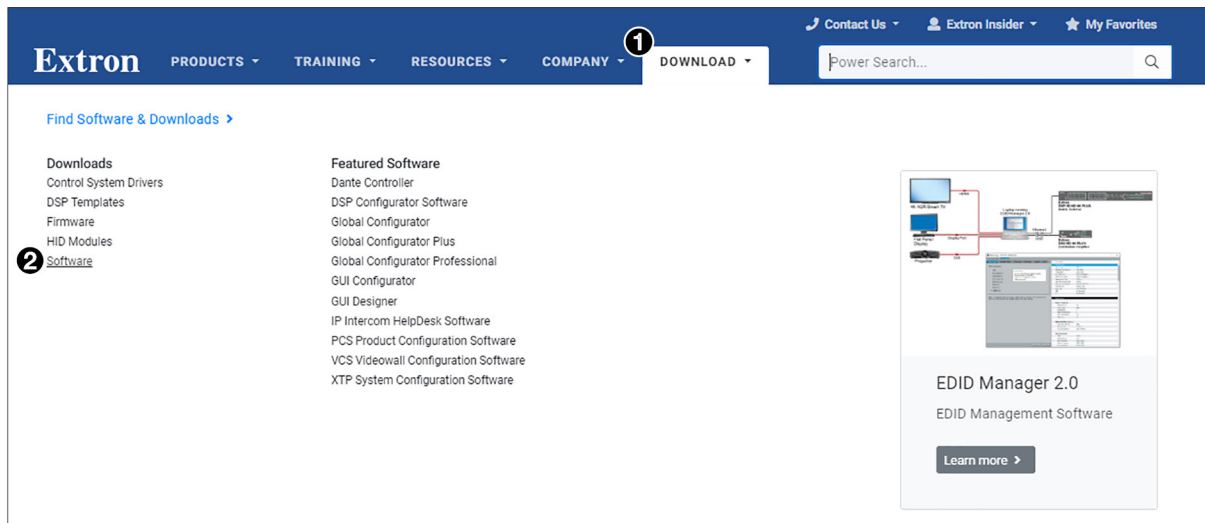

Figure 15. Software Link on the Download Page
1. On the Extron website, select the **Download** tab (see figure 15, ①).